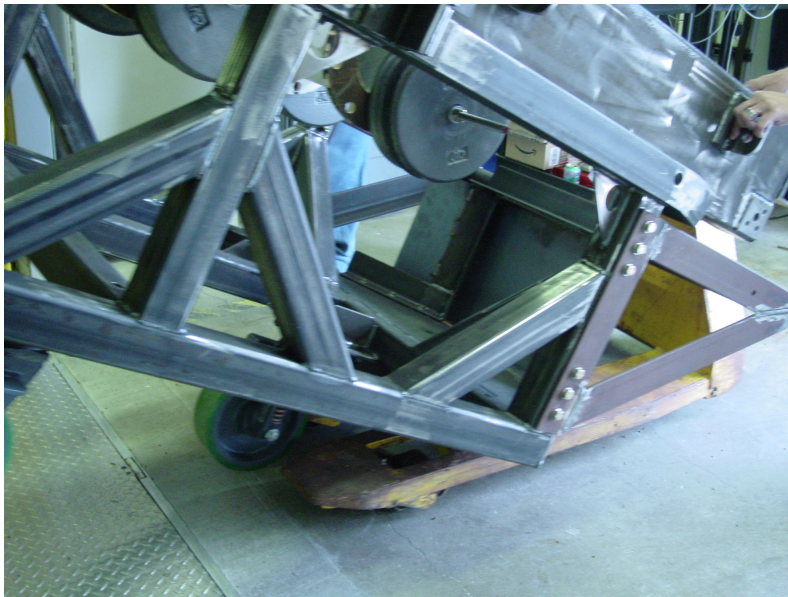

Figure 5
10. Once onto the wheel, roll the pallet jack barely under the end so that it will support the pivot point after the wheel is no longer on the ground. See Figure 5.